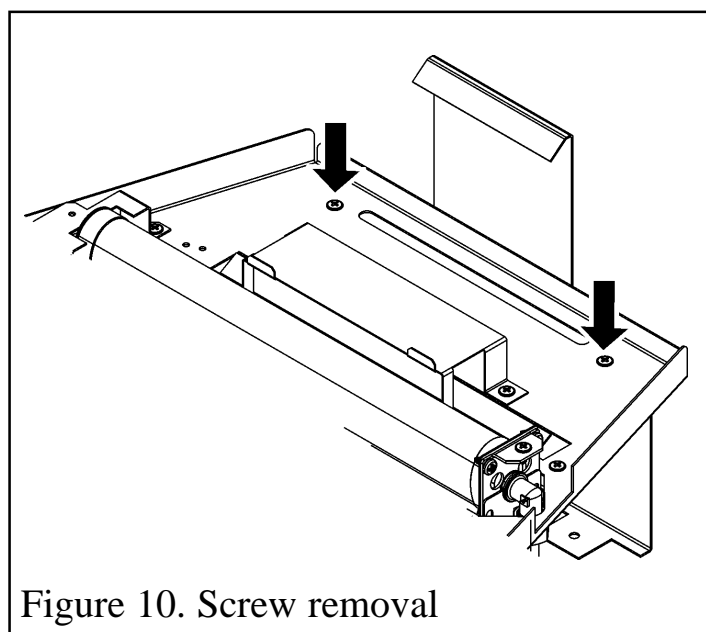

Figure 10. Screw removal
- Without disturbing the burner, remove the two screws at the rear of the burner tray (See figure 10). These secure the rear ceramic support bracket to the burner tray.